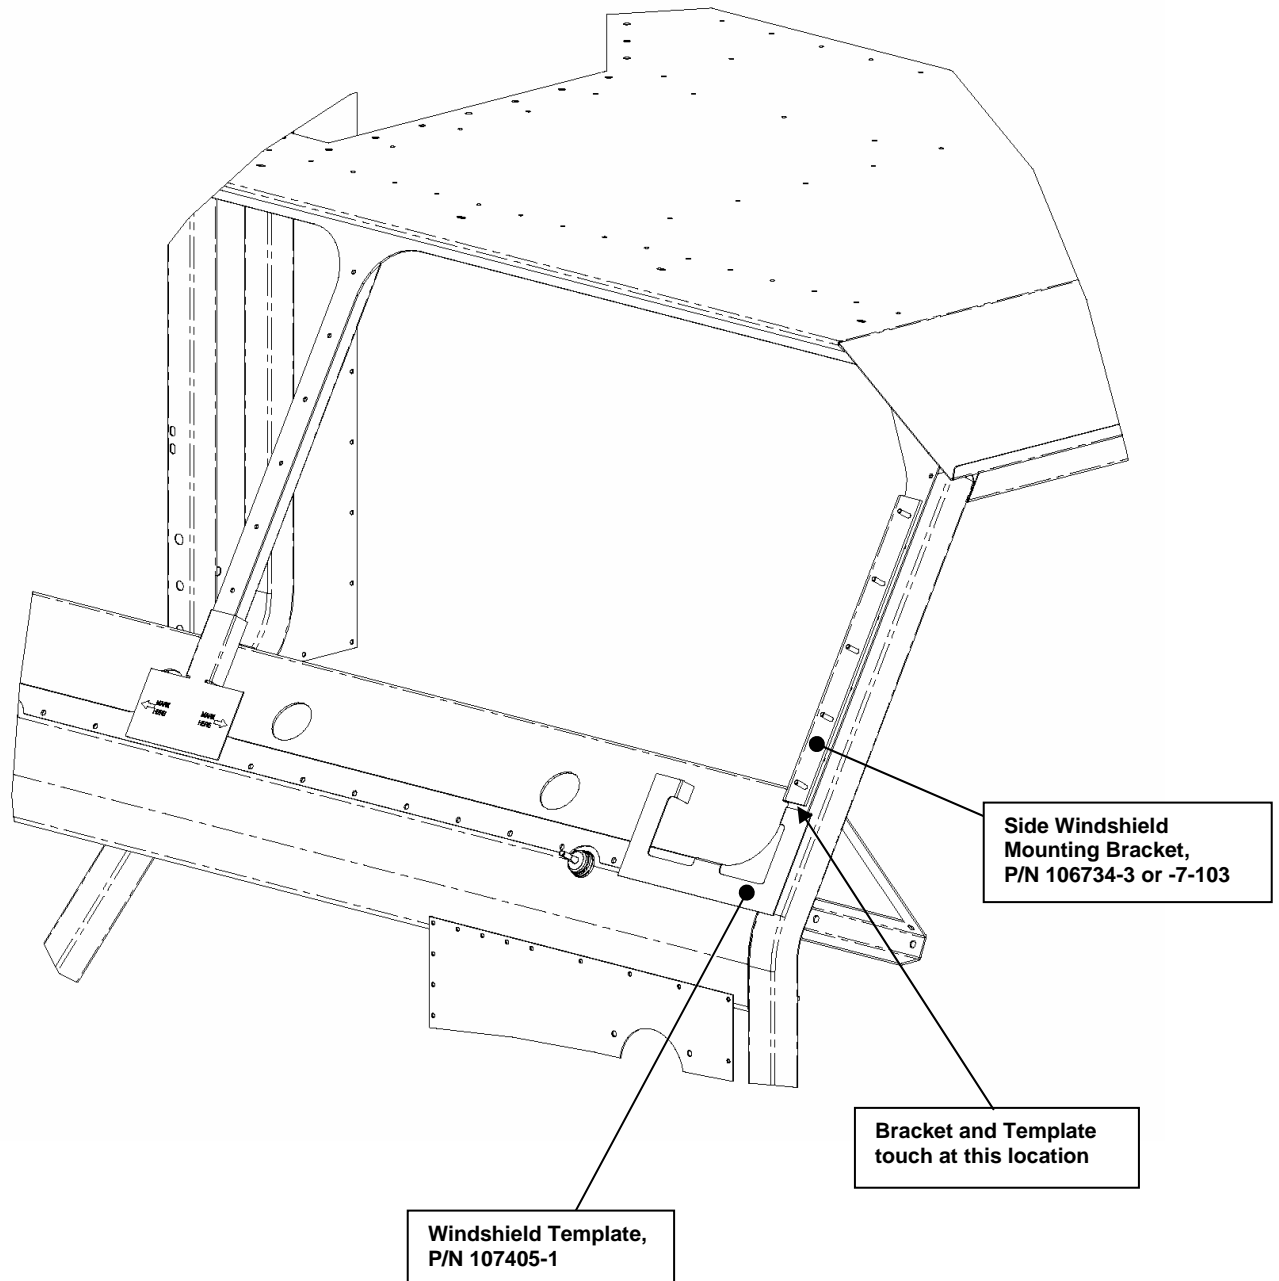

Figure 15. Windshield Bracket, Side Mounting.
- c) Place the Windshield Template (P/N 107405-1) on the vehicle, as shown in Figure 15. Place the Windshield Bracket (P/N 106734-3 or -7-103) on top of the template and against the window frame (see Figure 15). Once the bracket is located, tighten the upper and lower bolts so that the bracket clamps to the window frame of the vehicle. Do not tighten all of the bolts at this time, as adjustment may be required in the next steps. Using the same Template, install the other Windshield Bracket on the opposite side of the vehicle window frame. Remove the Template from the vehicle when complete.